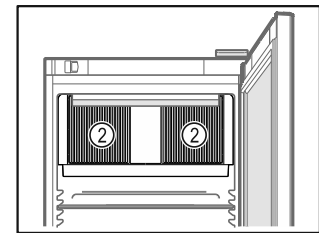

Fig. 61
- ❑ Ventilation slots Fig. 61 (2) for recirculation fan in the interior must be kept clear.